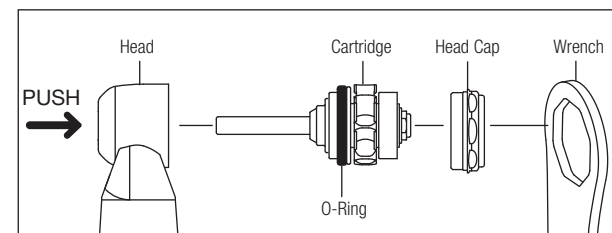

Fig. 8
- Make sure that the O-ring (Fig. 8) is correctly located on the cartridge.